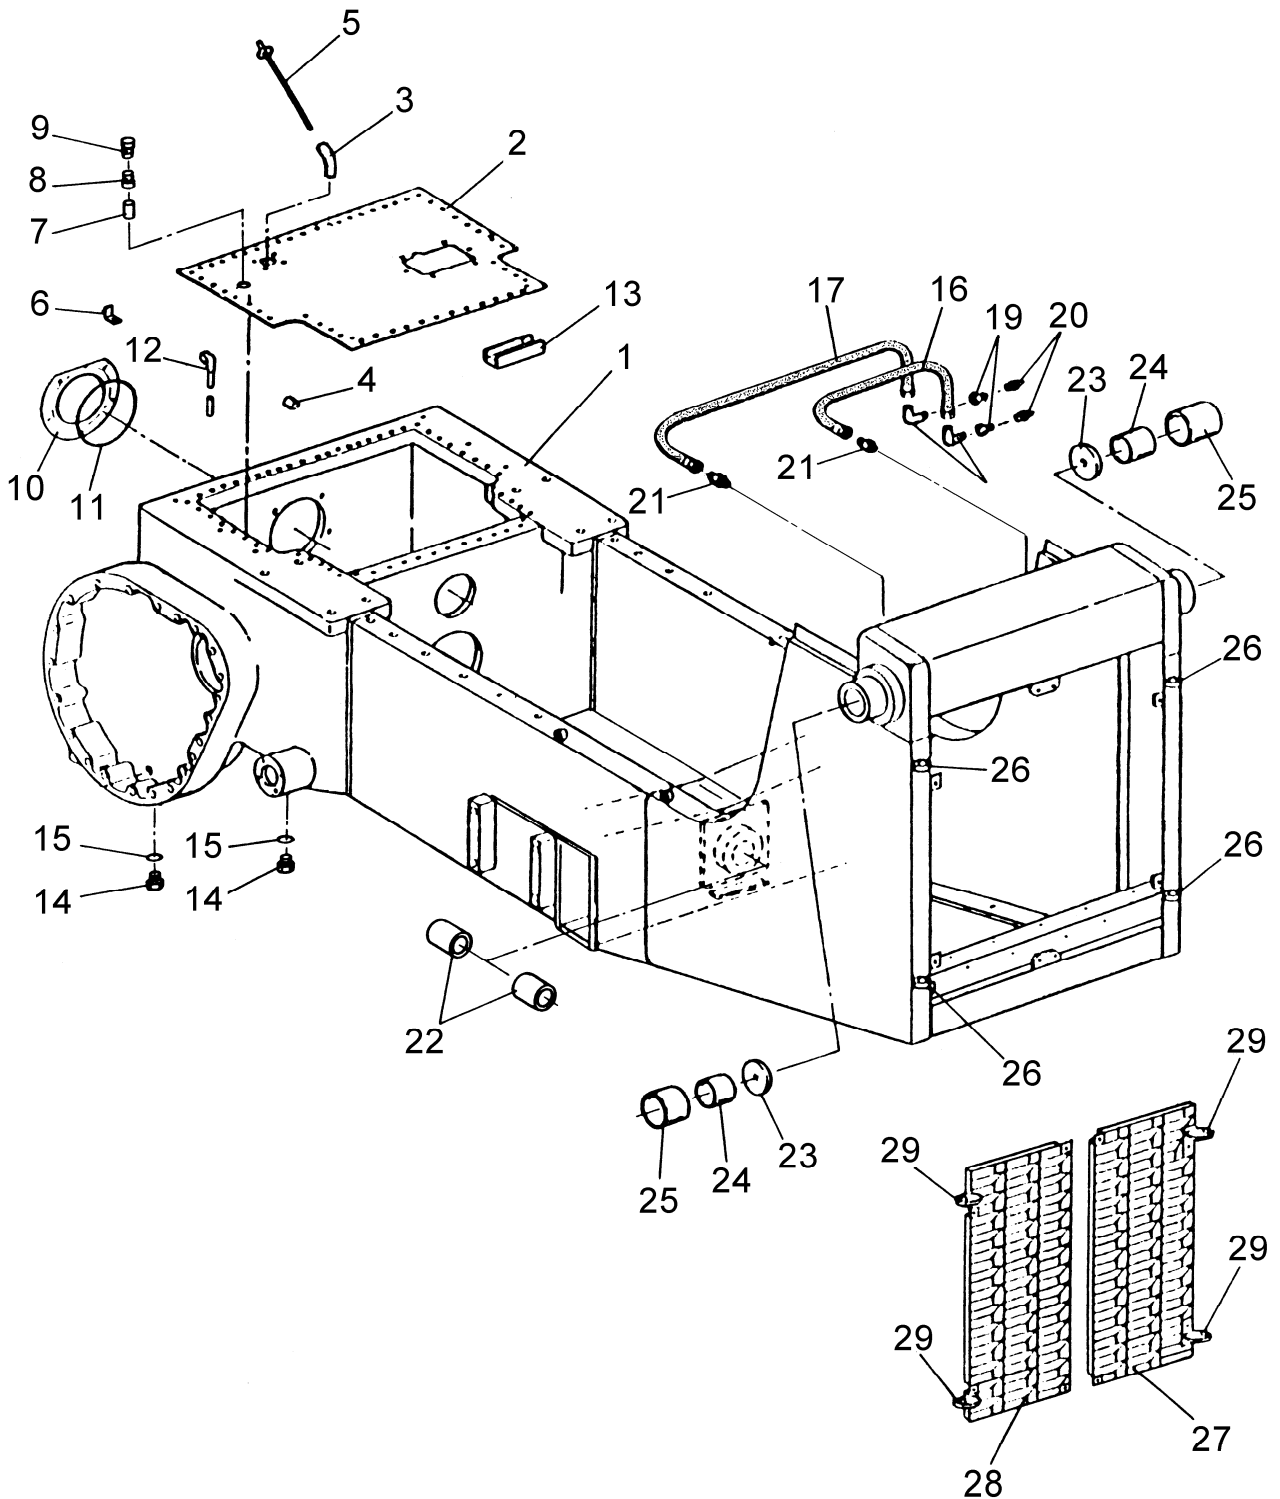

Fig. 9.1. View of Frame
Legend for Fig. 9.1
2. Remove the bushings (22, Fig. 9.1) from tunnel.
3. Remove outer tube bushing (25, Fig. 9.1) and inner tube bushing (24) from crosstube by unseating them from their bores. Use extreme care as not to nick, scratch or deface bushing bores in crosstube.
2. Slide new inner tube bushing (24, Fig. 9.1) into crosstube inner bushing bore and install a 10 ton ram. Properly align bushing with bore and apply hydraulic pressure to seat bushing. Remove the ram.
3. Slide new outer bushing (25) into crosstube outer bushing bore and install a 10 ton ram. Properly align bushing with bore and apply hydraulic pressure to seat bushing. Remove the ram.